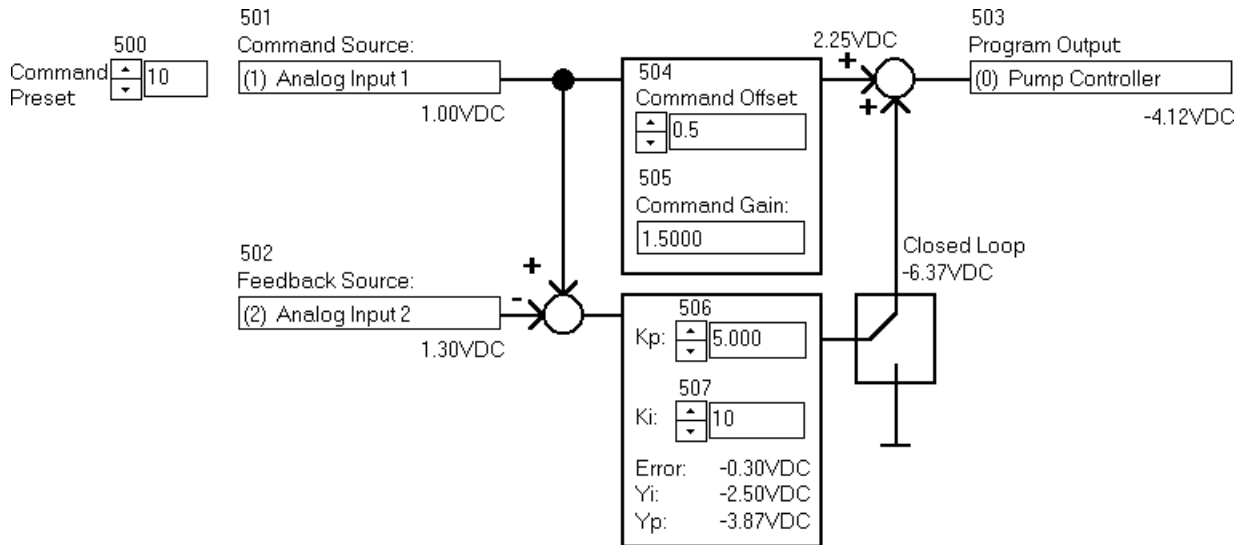

Figure 11: Advanced Control with Feed-Forward Program in Closed Loop
Example: Figure 11 shows Program 11 Form for Advanced Control with Feed-Forward in Closed Loop. The Command Source is Analog Input 1 (program item 501=1). The Command Preset is set to 10% (program item 500=10) although the Command Preset is not used in this example.